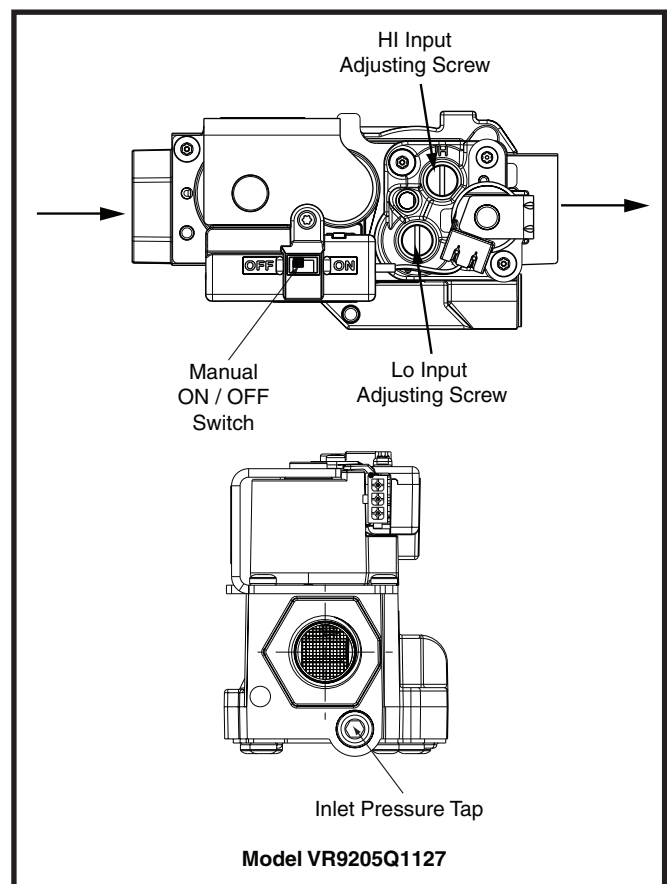

Figure 22. Gas Valve
3. Move the manual ON/OFF switch to the OFF position. See Figure 22.